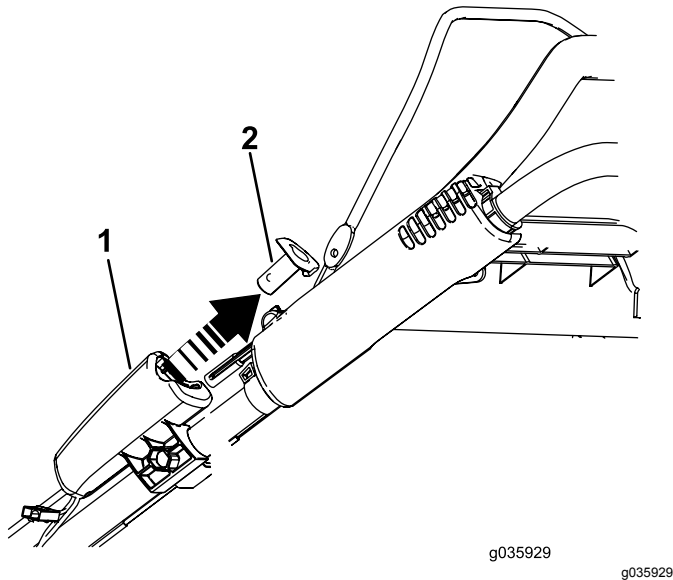

Figure 22
1. Remove the electric-start button as shown in Figure 22 (electric-start model only).